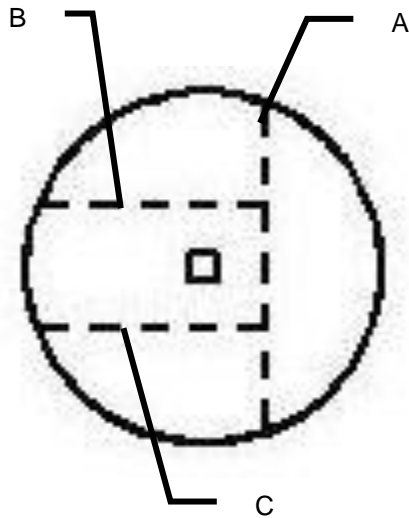

Figure 6
1. The moisture discs (006-4641H) will both need to be cut on line A. One disc will need to be cut on line B and one disc on line C. (Figure 6)